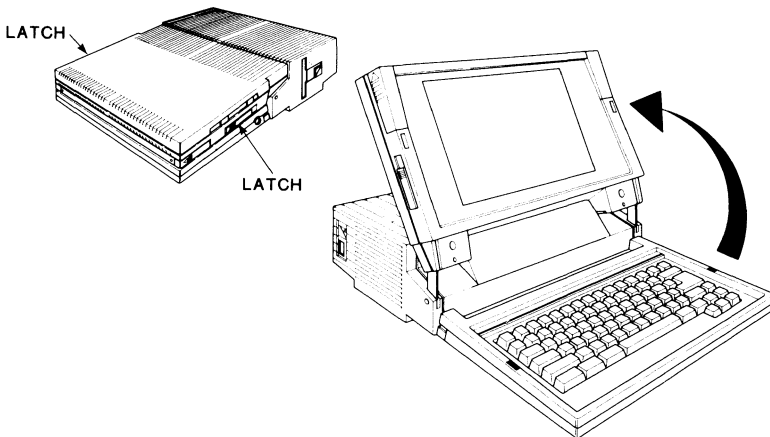

Figure 2-3. Opening the Computer
1. With the handle inserted fully into the computer, push the latch on each side toward the front, as shown in Figure 2-3.